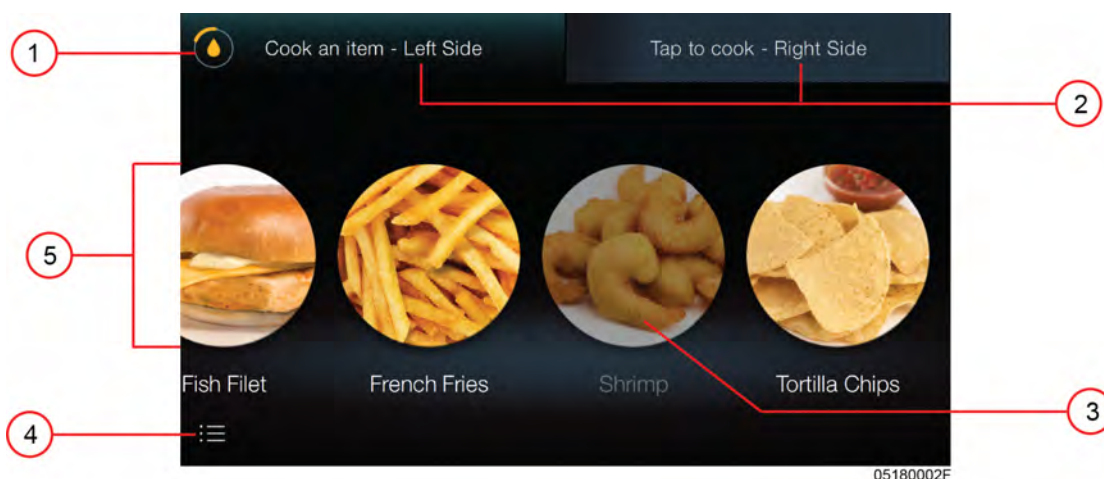

Figure 4-6 Homescreen
When oil temperature heats to 10°F (5.5°C) below setpoint, the fryer is in the ready mode, and the heat pulses to avoid temperature overshoot, see Figure 4-5 Ready to cook, page 22. When you are ready to cook, tap the **Cook on Left Side** button and this will take you to the homescreen with food items active for the left basket. Tap the **Cook on Right Side** button and the homescreen displays with food items active for the right basket, see Figure 4-6 Homescreen, page 23 for more information.
The homescreen is the primary operating screen of the F5. From this screen, you can start timers, access oil information and enter the settings menu. There are two tabs (2) at the top of the home screen used to select whether the display is active for the left side or the right side. The left side in Figure 4-6 Homescreen, page 23 is active because the left tab shows **Cook an item - Left Side**. To activate the right side, tap the **Tap to cook - Right Side** tab. The food items displayed on the homescreen apply to the active side only. Settings accessed from the homescreen apply to both sides for full vats, but some features in settings apply only to the active side for a split vat.
These are grayed out food items which require an oil temperature change before cooking, see Figure 4-6 Homescreen, page 23. Tapping on an incompatible food item opens a display which lets you know that either the oil needs to heat or cool down to a new setpoint.